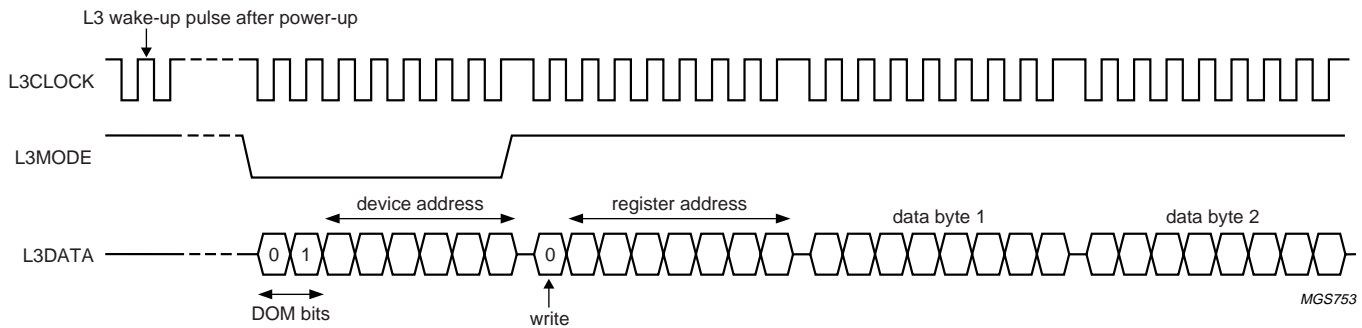

Fig.6 Data write mode (for L3-bus version 2).
The address mode is used to select a device for a subsequent data transfer. The address mode is characterized by L3MODE being LOW and a burst of 8 pulses on L3CLOCK, accompanied by 8 bits (see Fig.6). The data transfer mode is characterized by L3MODE being HIGH and is used to transfer one or more bytes representing a register address, instruction or data.
Remark: when the device is powered-up, the L3-bus interface must receive at least one L3CLOCK pulse before data can be sent to the device (see Fig.6). This is only required once after the device is powered-up.
- To write data: bit 0 is logic 0 specifying that data will be written to the device register, followed by bits 1 to 7 specifying the device register address (see Fig.6)
The data write mode is explained in the signal diagram of Fig.6. To write data to a device requires four bytes to be sent (see Table 7):